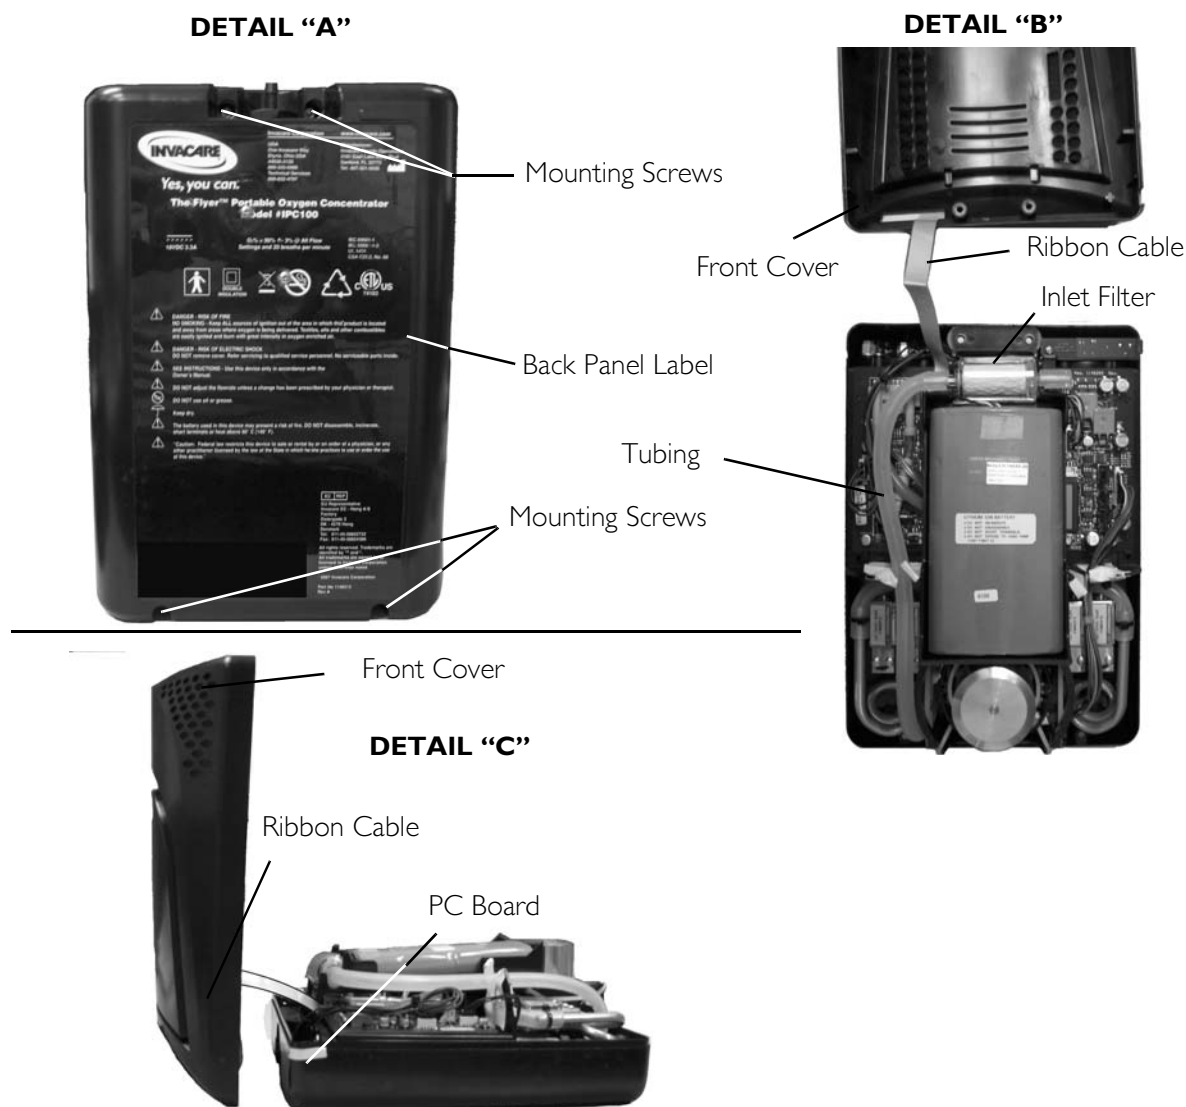

FIGURE 2.3 Removing the Front Cover
NOTE: For this procedure, refer to FIGURE 2.2 and FIGURE 2.3 on page 10.
2. Position the XPO₂ so that the back panel label is facing up (Detail “A” in FIGURE 2.3).
3. Remove the four mounting screws from the back of the XPO₂ using a T15 Torx[®] screwdriver (Detail “A” in FIGURE 2.3).
5. Slowly, open the front cover ensuring not to damage the ribbon cable (Detail “B” and Detail “C” in FIGURE 2.3).
6. Position and orient the new filter in the holder (Detail “B” of FIGURE 2.3).
NOTE: For this procedure, refer to FIGURE 2.3 on page 10.
4. While holding the unit together, position the XPO₂ so that the back panel is facing up (Detail "A" in FIGURE 2.3).
5. Install four mounting screws and secure the two sections of the XPO₂ together (Detail "A" in FIGURE 2.3). Securely tighten.